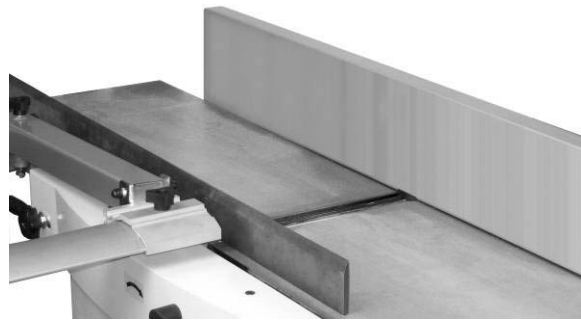

Figure 9
5. Set a *straightedge* (J) on the *outfeed table* (F) near the *fence* (H). One end of the straightedge should be positioned over the *cutting knife* (C) near the end of the blade as shown in Fig. 9.